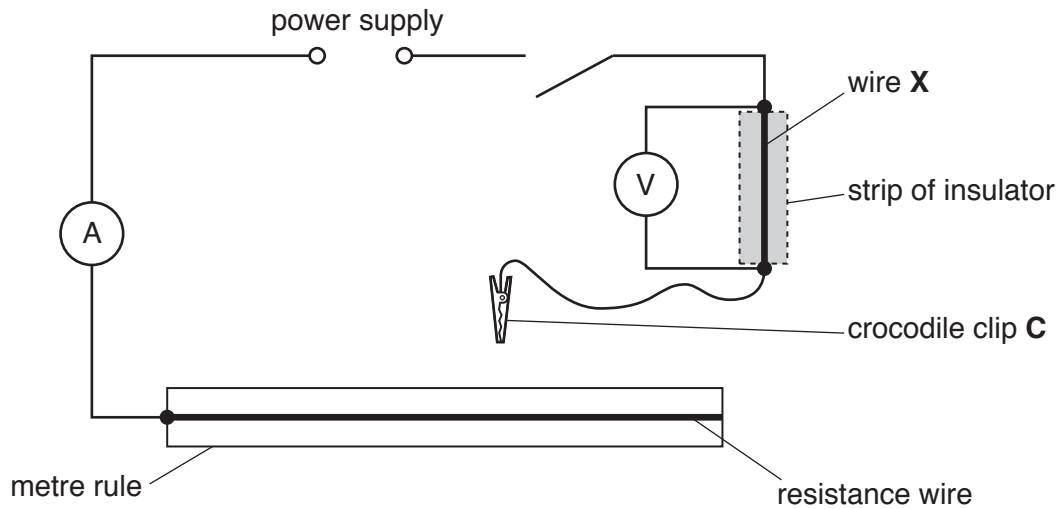

Fig. 2.1
- (vi) Sufficient connecting leads to set up the circuit shown in Fig. 2.1.
2. The circuit is to be set up for candidates as shown in Fig. 2.1, with the crocodile clip **C** not connected to the wire.
Ensure that the circuit is connected as shown in Fig. 2.1. Check that the circuit is working. Disconnect the crocodile clip **C** from the resistance wire and ensure that the circuit is switched off.